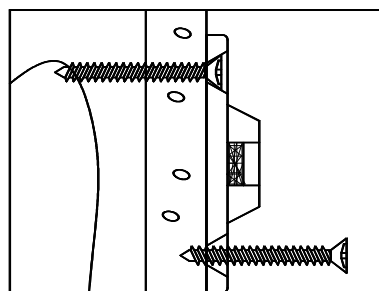
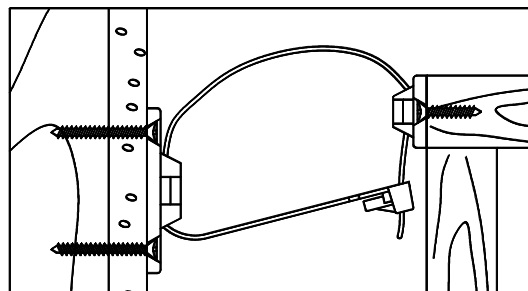

Figure 2
Figure 3
3) MOUNTING THE WALL-SIDE BRACKET: Position the wall-side bracket along the selected stud mark so that it will be adjacent the furniture-side bracket when the furniture item is moved to its final position. The wall-side bracket should be about ONE inch lower than the furniture-side bracket (See Figure 3). Use the TWO long screws to secure the wall-side bracket to the wall. Remember to position the wall-side bracket vertically so that both screws will engage the selected wall stud (See Figure 2).